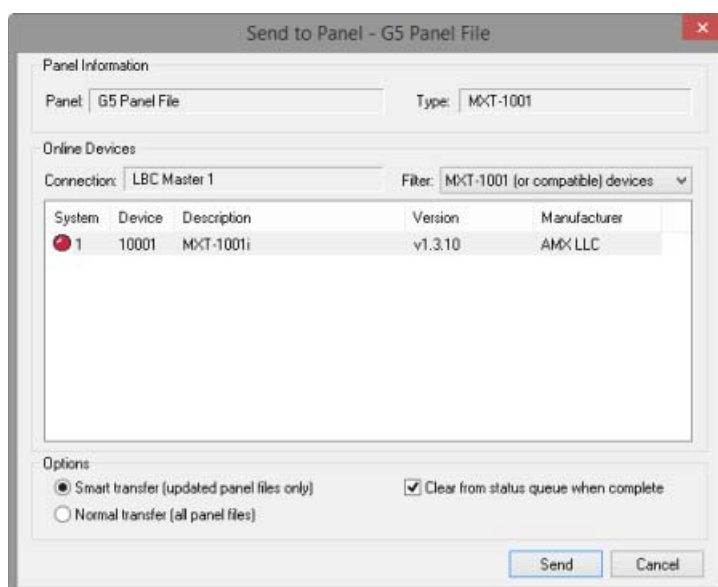

FIG. 418 Send To Panel dialog
3. Once communication is established, select **Transfer > Send to Panel**. This opens the *Send to Panel* dialog (FIG. 418):